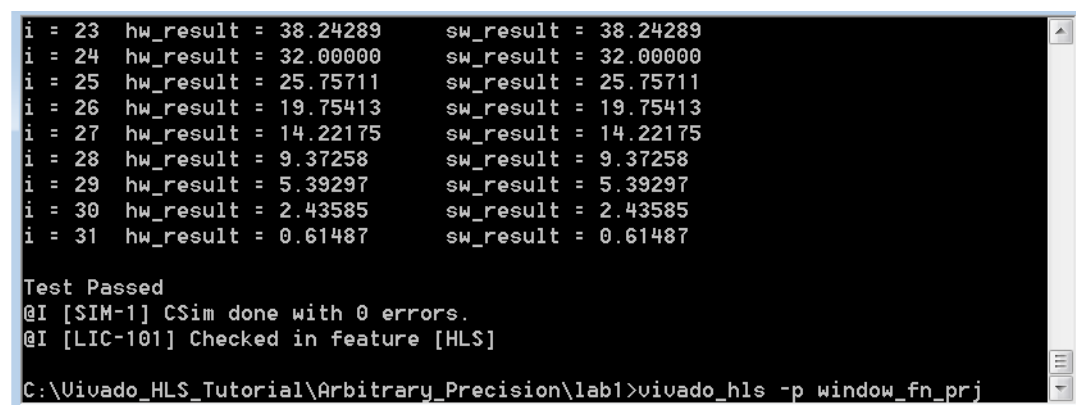

Figure 5-3: Initial Project for Arbitrary Precision Lab1
4. When Vivado HLS completes, open the project in the Vivado HLS GUI using the command `vivado_hls -p window_fn_prj` as shown in Figure 5-3.